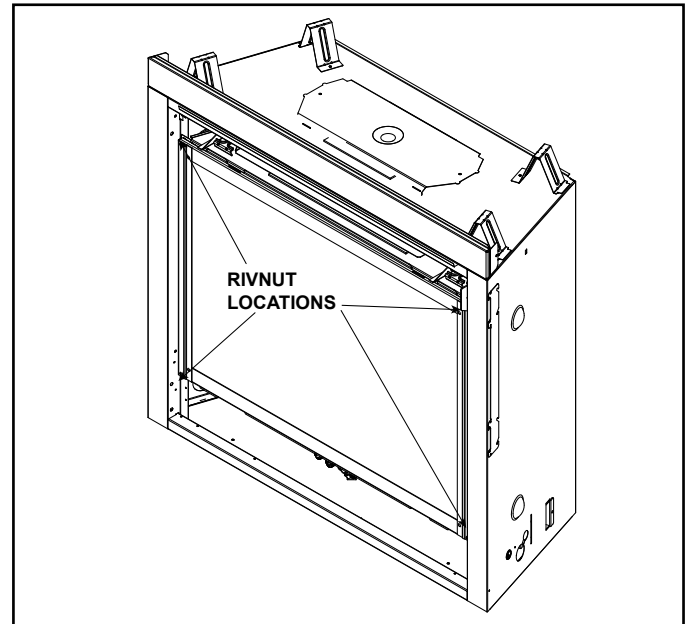

Figure 2. Rivnut Locations - SL Fireplaces
1. Rivnuts are to be installed in four locations. See Figure 2. Locate the rivnut location template included in the kit. Starting with the upper right corner of the fireplace, align the location template so that the "TOP"